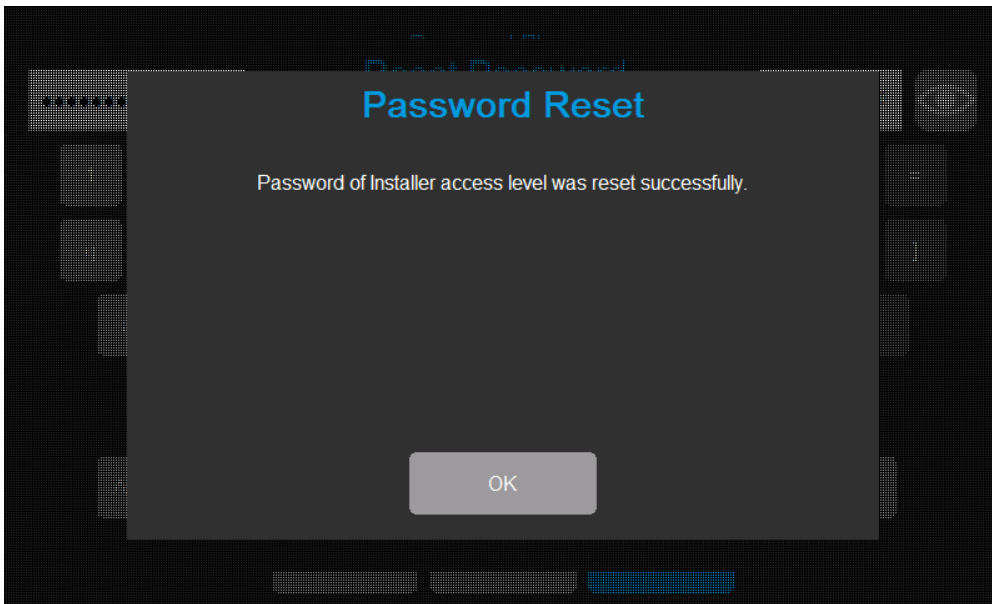

Fig. 93: Password Reset acknowledgement dialog box.
- When the Installer password has been successfully reset, the acknowledgement dialog box will appear. Refer to Fig. 93. Select OK to exit this mode.